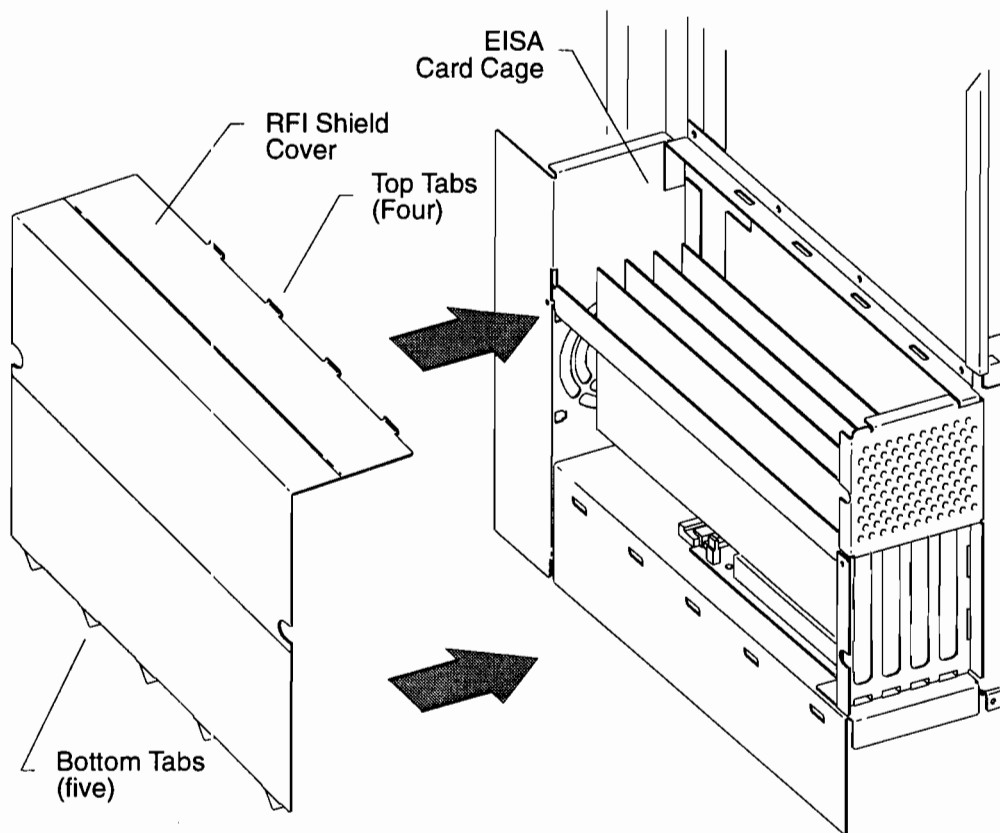

Figure B-14. Replacing the RFI Shield Cover
9. Replace the RFI shield cover by inserting the five tabs that fit into the lower part of the card cage and pushing in the four tabs that fit into the top edge of the shield, as shown in Figure B-14.